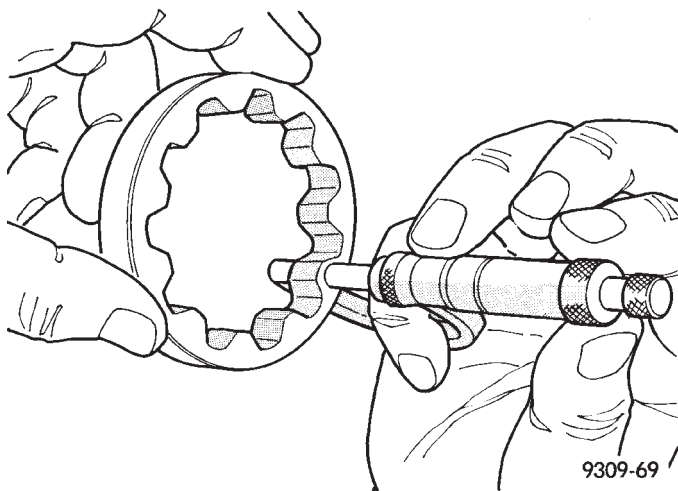

Fig. 109 Measuring Outer Rotor Thickness
(3) Measure thickness and diameter of outer rotor. If outer rotor thickness measures 9.39 mm (0.3695 inch.) or less (Fig. 109), or if the diameter is 79.78 mm (3.141 inches.) or less, replace outer rotor.